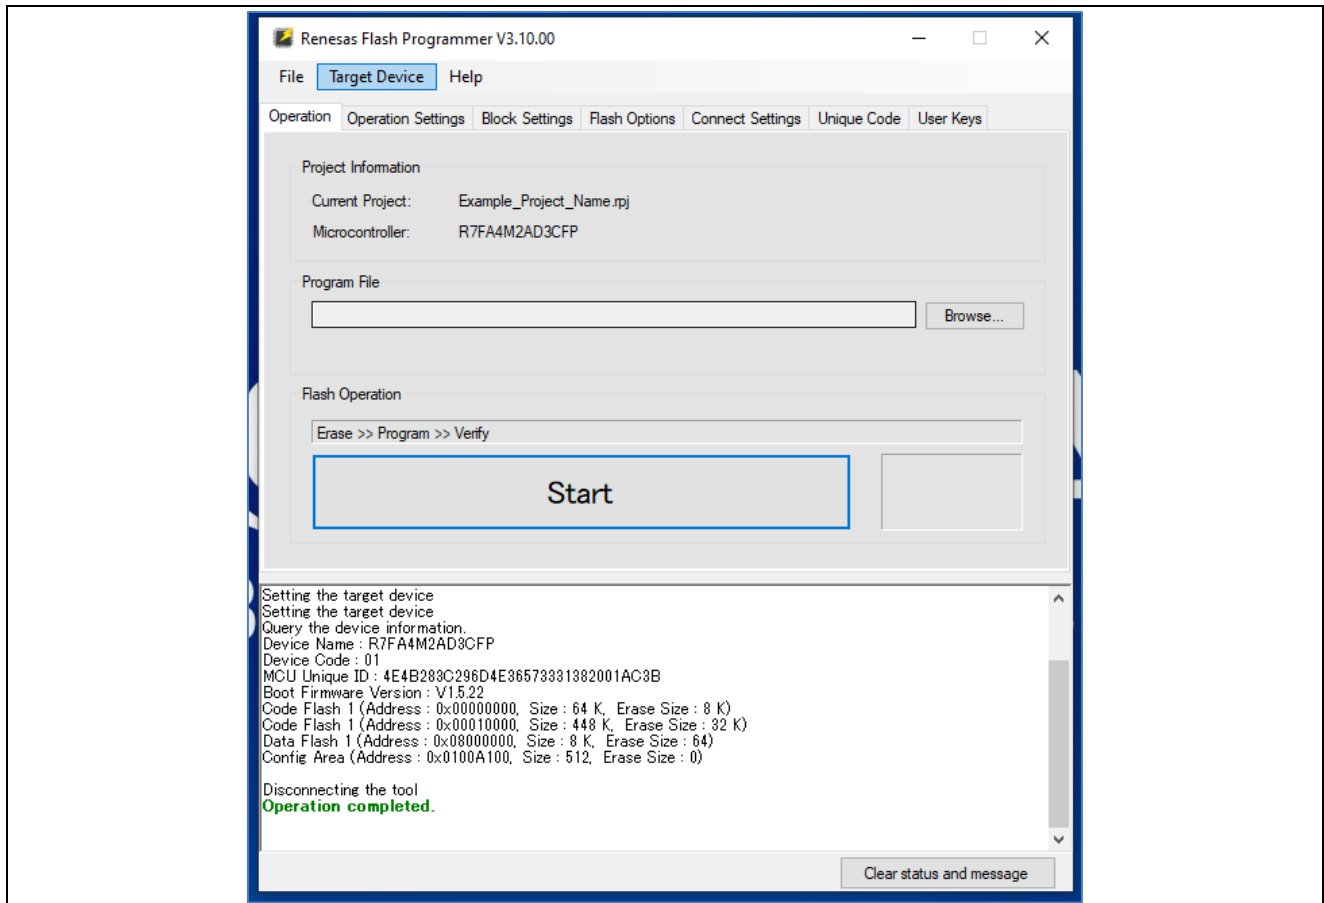

Figure 3. Main Window of Renesas Flash Programmer After Creating a New Project
5. Verify that the message **Operation completed** is printed in the main window after clicking **Connect**. Under Program file, click **Browse** to choose the program file that will be flashed onto the board (Figure 3). Using the file explorer window, navigate to the example project's **Hex File** (located in `r21qs0008euxxx-ryz024a-ek-ra4m2.zip > ryz024a_quickstart_ek_ra4m2/ ryz024a_quickstart_ek_ra4m2.srec` file) and click **Open**.